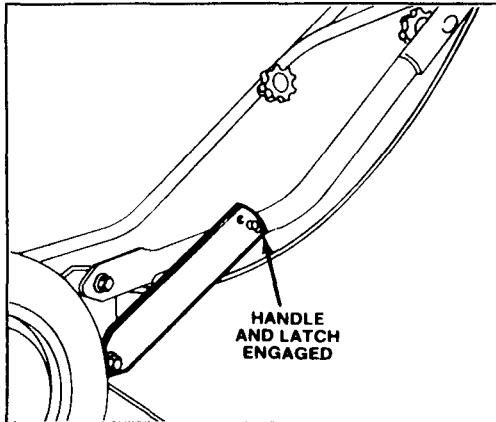

Figure 2
2. Pivot handle backward until handle stud snaps into center hole of handle latch (Fig. 2). If handle height is not satisfactory, adjust by placing handle stud into a different hole.